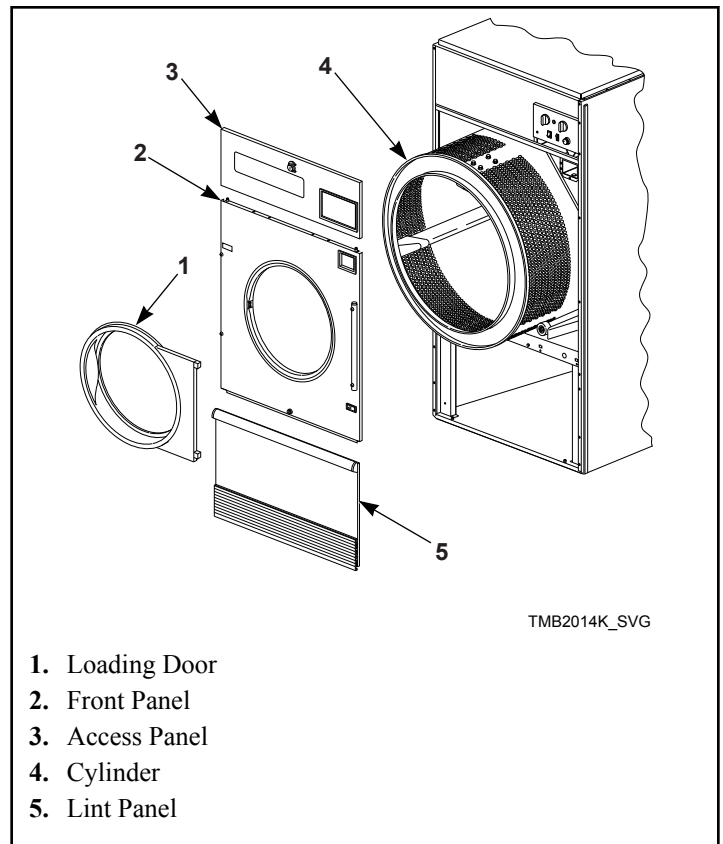

Figure 7
1. Remove the loading door, access panel, front panel and lint panel. Refer to *Figure 7*.
5. Pull the cylinder out through the front of the tumble dryer. Refer to *Figure 7*.